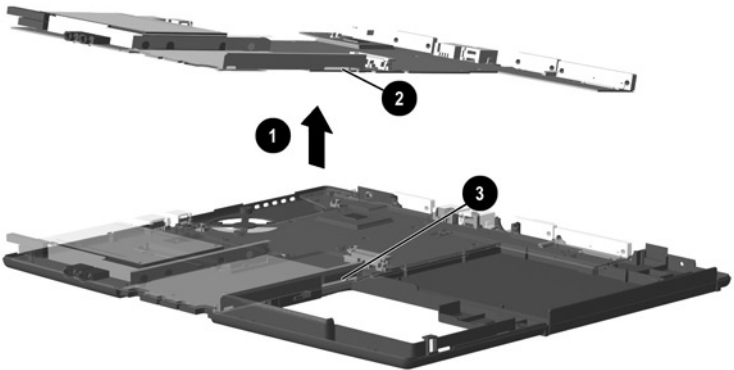

Figure 5-21. Lifting the System Board
- Lift up the front edge of the system board ❶ until the board and the battery connector ❷ are clear of the base enclosure (Figure 5-21).
**CAUTION:** When removing the system board, make sure the battery connector ❷ is carefully routed out of the opening ❸ in the base enclosure in which it rests. Failure to follow this caution can result in damage to the battery connector.